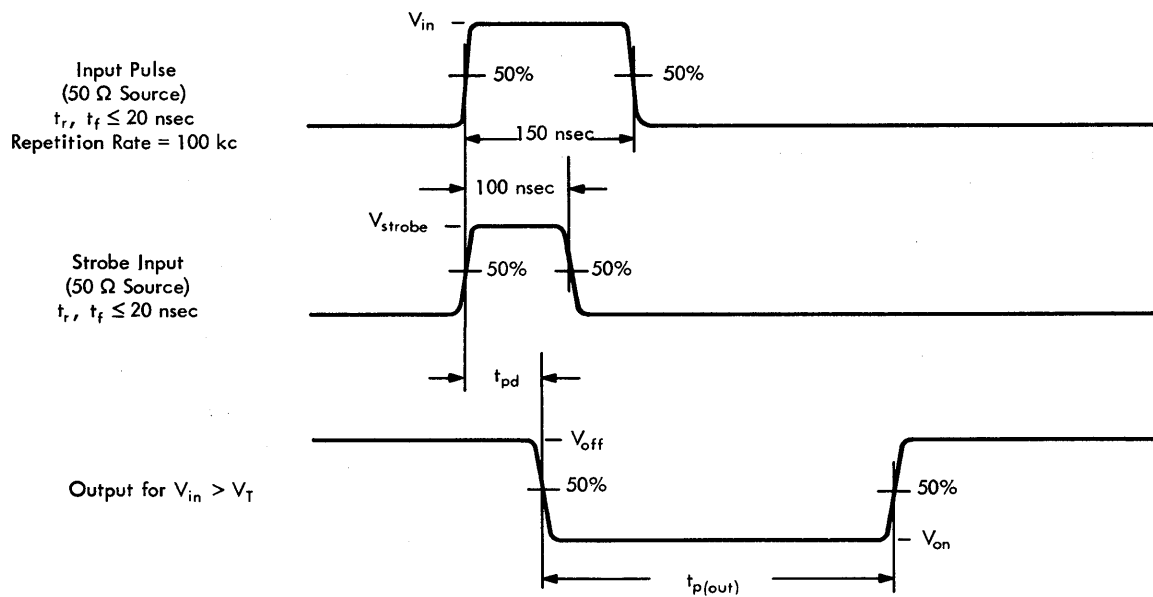

FIGURE 4 — TEST TIMING DIAGRAM FOR THRESHOLD AND SWITCHING CHARACTERISTICS
See Figure 4
- $t_{p(out)}$ — Output pulse width measured at 50-percent levels (see Figure 4).